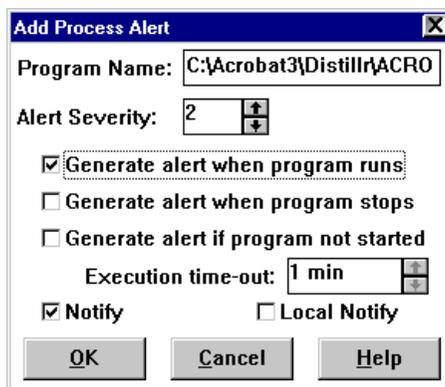

Figure 193. Adding an Alert When ACRODIST Starts
7. This time, fill out an alert for when ACRODIST starts or restarts, per Figure 193:
Once the ACRODIST program is restarted, we want the alert to be sent to the administrator's workstation. As this was already configured in Figure 193, there is nothing further to do.